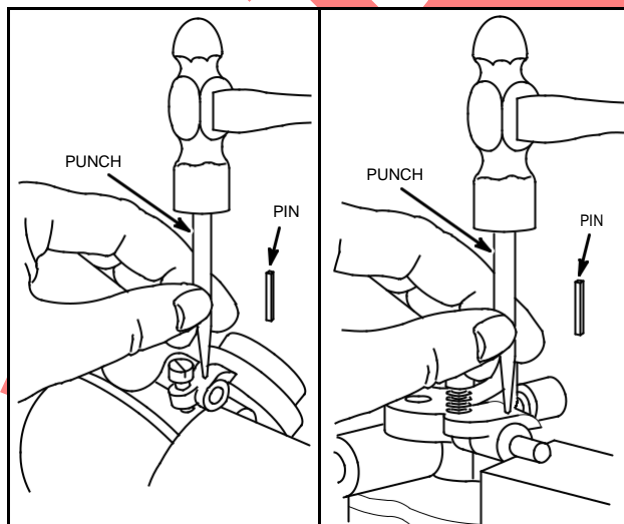

Fig. 275 - REMOVE THROTTLE SHAFT AND BUSHINGS
1. To remove throttle shaft, use a thin punch to drive out pin holding throttle stop to shaft, remove throttle plate, then pull out shaft, Fig. 275.